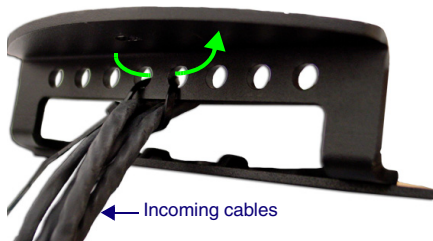

FIG. 5 Thread a tie-wrap through the center holes on the Raised Lock Bracket
6. Thread a tie-wrap (not included) through the center pair of circular openings on the bracket (FIG. 5) and use it to secure all of the NXA-MTC/RGB cables to the bracket. Trim off any excess length on the tie-wrap (if necessary).